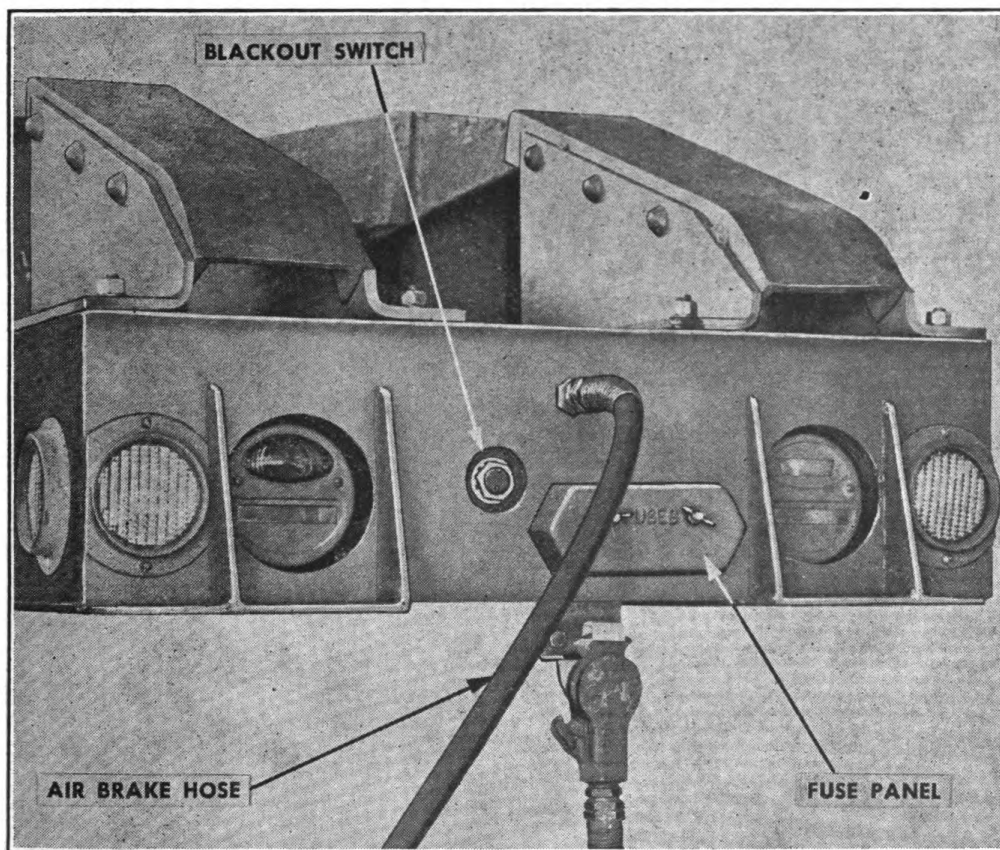

FIGURE 3. CONTROLS—REAR VIEW—DOLLY.
a. *Blackout switch* (Figs. 3 and 4).—Two blackout switches are provided; one on rear crossmember of dolly, and one on body panel on right front side of trailer. There is no “off” position on these switches.